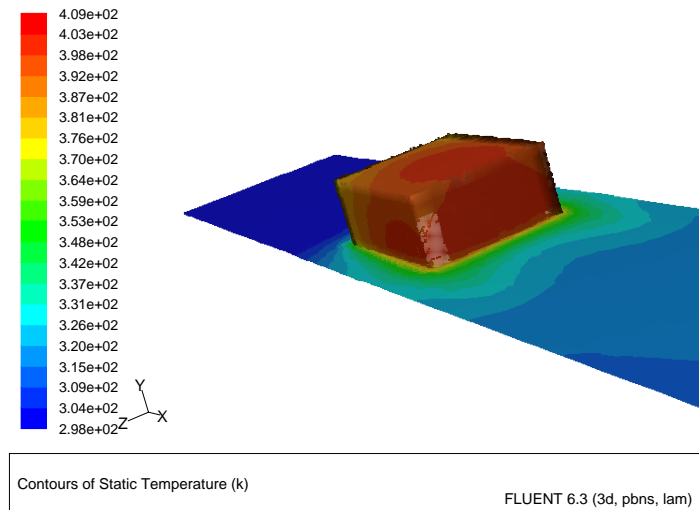

Figure 23.13: Filled Temperature Contours on the Chip and Board Top Surfaces
- (e) Rotate the view and zoom out the display so that the downstream side of the module is in the foreground (Figure 23.13).